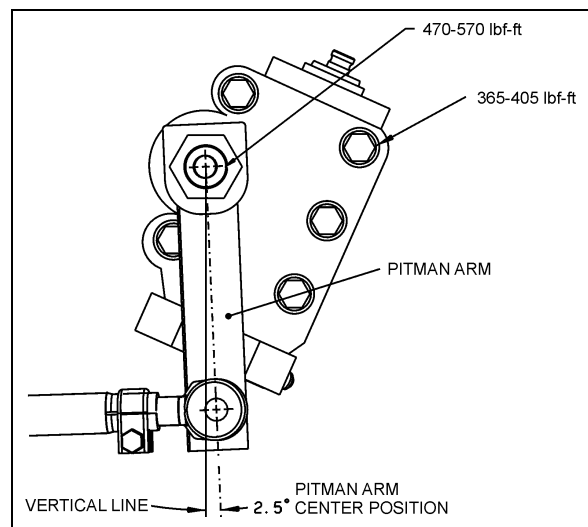

FIGURE 14: PITMAN ARM ADJUSTMENT
2. Using a protractor, check the angle of the pitman arm (refer to Fig. 14 for details).